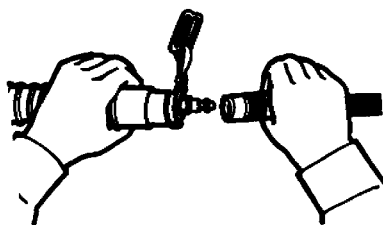

Figure 14
2. With air flowing, connect breathing tube assembly to air supply hose (see Figure 14). Connect quick-disconnect fitting on breathing tube assembly to quick-disconnect coupler on air supply hose. Once fitting is secured, release coupling sleeve to lock fittings together. Pull on both hoses to make sure they are attached securely.